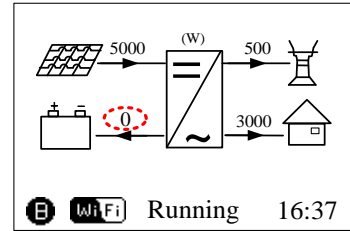

Figure 7 SH5K Home Screen
Step 7 Insert the RJ45 plug and watch the SH5K home screen. Soon as you see '0' beside the battery the communication is connected (Figure 7).